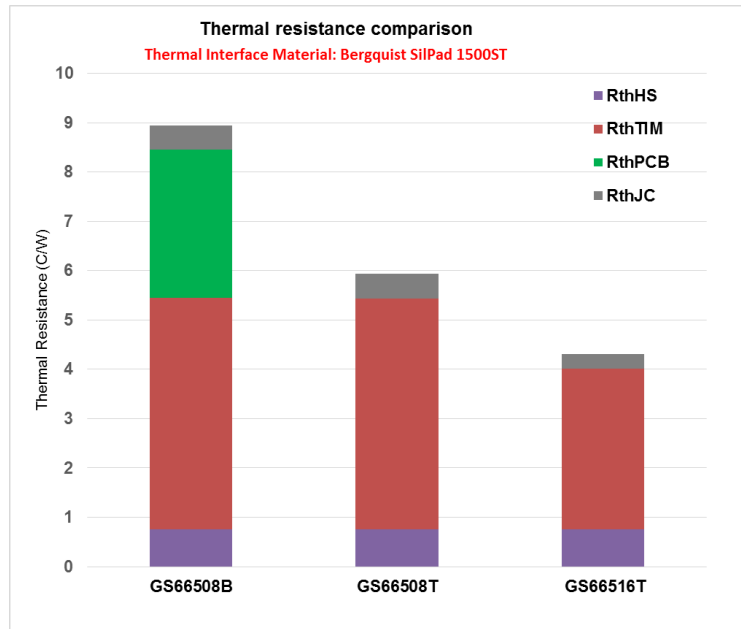

Figure 9 Evaluation board thermal resistance comparison
- The TIM we use on this assembly is Bergquist® SilPad 1500ST, the measured total thermal resistance can be found in Figure 9. Compared to a bottom-cooled design, the top-side cooled package eliminates the PCB thermal resistance and significantly improve the thermal performance. Thermal grease is typically not needed on the assembly. If thermal grease is applied, use non-conductive and non-capacitive type thermal grease.